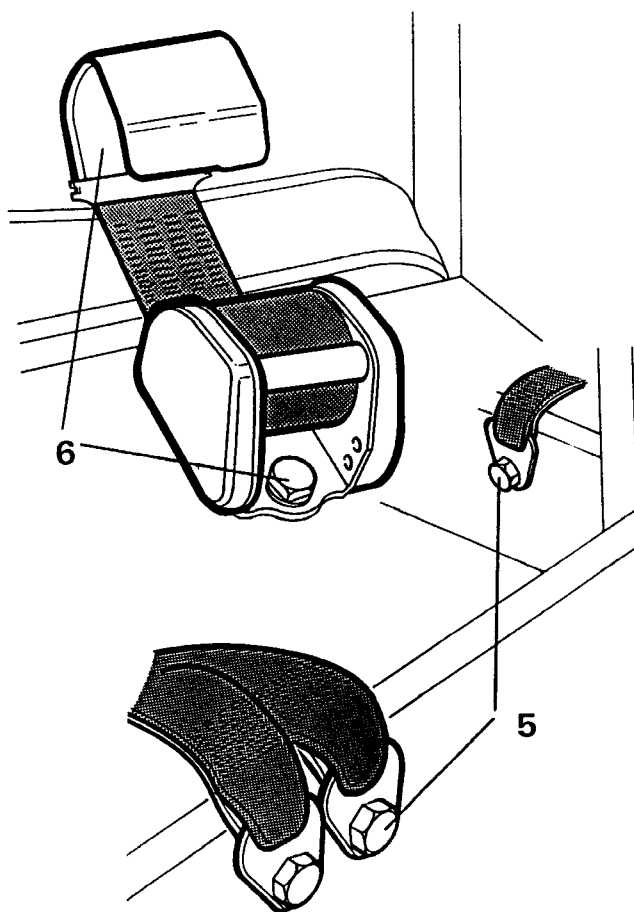

Figure 5
5. Remove the screw and washer which secure the seat belts to the floor mounting points. See figure 5.